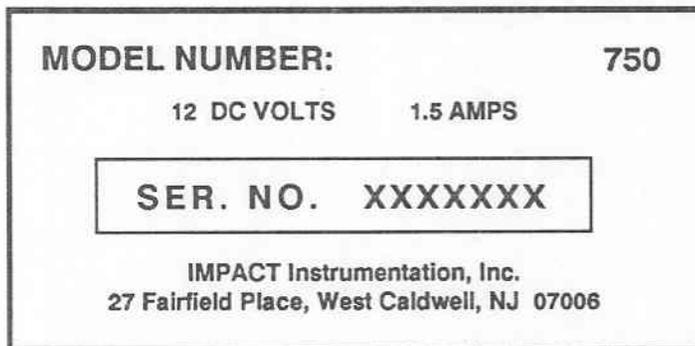

Figure 1-8. Data plate (multivoltage power supply).
(2) The multivoltage power supply data plate, located on the top, is depicted in figure 1-8.